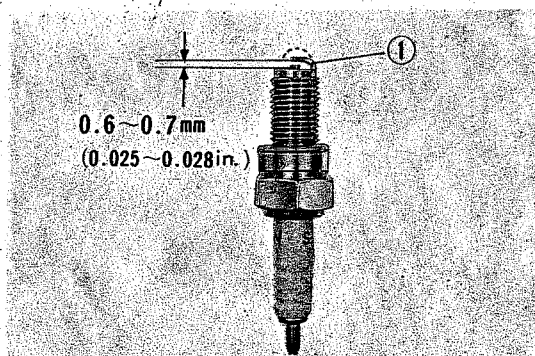

Fig. 11 ① Electrode
- 3) Check the gap between the electrodes with a thickness gauge and if necessary, adjust the ground electrode by bending. The standard clearance is 0.6–0.7 mm (0.025–0.028 in.). (Fig. 11)